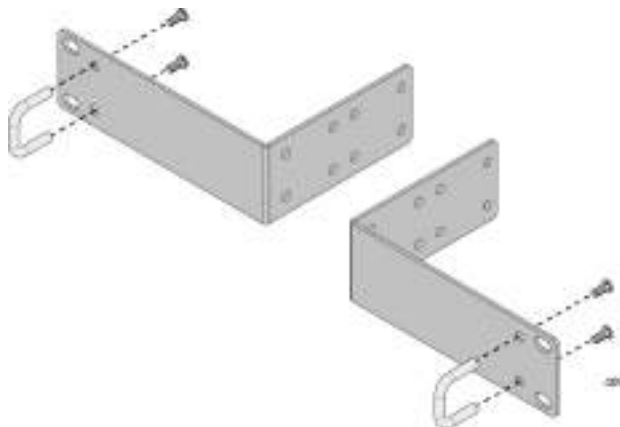

Figure 36. Attaching the Handles to the Brackets
2. Attach the handles to the brackets as shown in Figure 36.